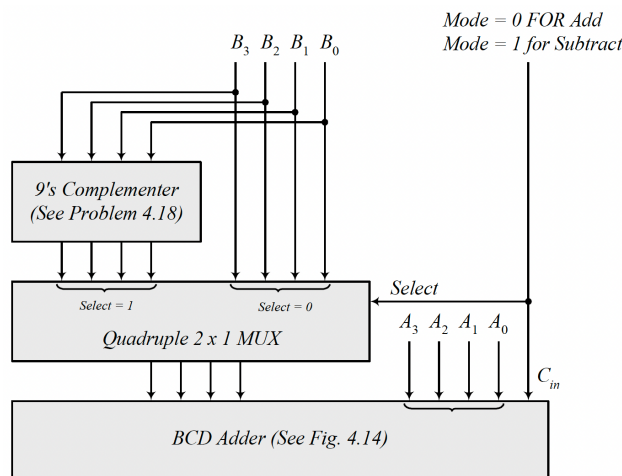

Figure 1 BCD adder-subtractor circuit
In this project, you need to implement a **BCD adder—subtractor circuit** shown in Figure 1. You need to build the system components separately using Verilog HDL. Then, you have to integrate the different system components to build the whole system. Each of the system components, as well as, the whole system should be verified using simulation.
- D. Integrate the whole components of the system by developing and simulating a **structural model** of Figure 1. In your design, make sure that (1) the BCD adder should be described as a **data flow model** in a separate module, (2) the 9's complementor should be described as **data flow model** in a separate module, and (3) the quadruple 2X1 multiplexer be described as a **behavioral model** in a separate module. Finally, all the system components are to be instantiated in a top-level module using a **structural model**.